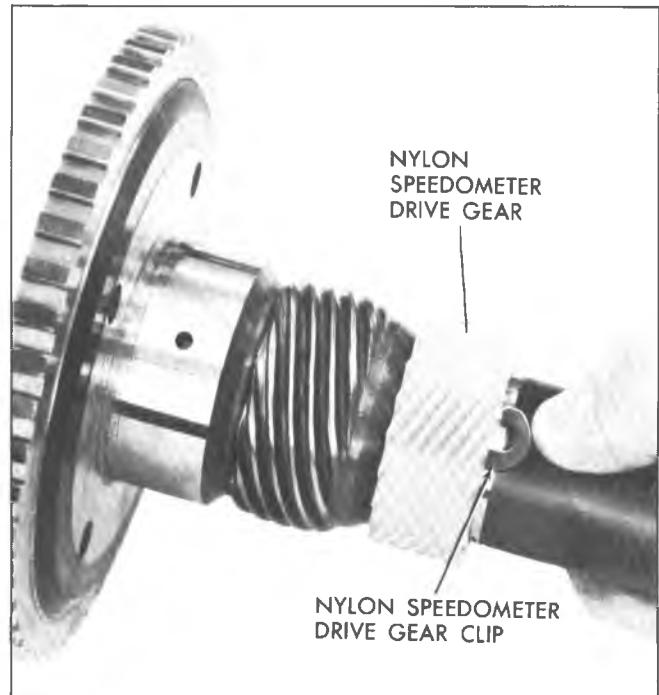

Fig. 46T--Removing Speedometer Drive Gear
- Depress clip and slide speedometer drive gear off output shaft (Fig. 46T).